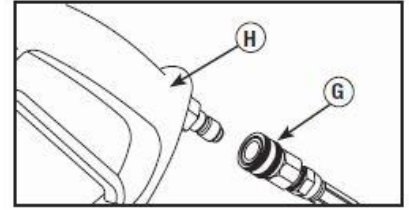

Fig. 7
1. Uncoil high-pressure hose (G) attach quick-connect end of hose to base of spray gun (H). Pull down on collar of quick-connect, slide onto spray gun and let go of collar. Tug on hose to be sure of tight connection. (See Fig. 7)